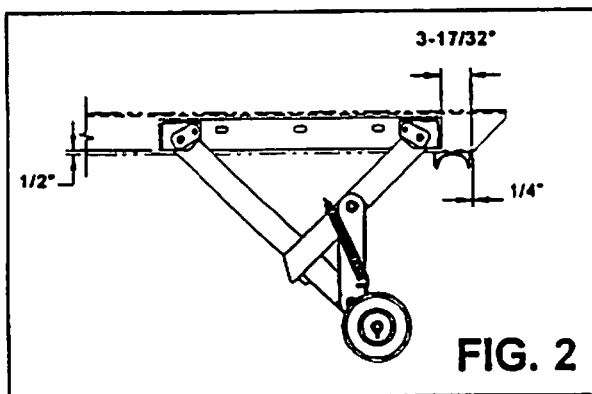

FIG. 2
3. Some modification to the roller mount bracket may be required for the roller mount to fit properly. If the existing container cross members are wider than 6", a fabricated support member of 1/2" plate or thicker will need to be added (See Fig. 2).
2. Center fender above tire using block to maintain the proper height. Fender should be approximately 6" above tire to allow for suspension movement (See Fig. 1). A maximum width of 48" from center of the truck to the outside edge of the fender should be maintained (See Fig. 2).
5. Attach cab guard weldment to truck frame using fasteners provided (See Fig. 2).
- Position drop down bumper on the longsills of the sub-frame (See Fig. 2 & 3). The mount brackets [Part No. 51H17] need to be positioned correctly to allow for sufficient room for bumper cradles [Part No. 51H19] (See Fig.2). Weld mount brackets onto the longsills of the sub-frame.
- Position bumper cradles [Part No. 51H19] on the longsills of the sub-frame. Check bumper cradles for squareness with respect to each other. The bumper tube [Part No.51H16] should come to rest within the bumper cradles when the container rests on the ground (See Fig. 2 & 3). Weld bumper cradles into place on longsills.
3. Weld the front [62H87] and rear [62H88] brackets to the support bars. Be sure to maintain the dimensions as indicated so that the bumper folds properly (See Fig. 2 & 3).
3. Position center plate [Part No. 63H08] on the rear of the main frame. Weld center plate to truck frame (See Fig. 2 & Additional Notes).
7. Mount license lamp right of the license plate (See Fig. 2) using the fasteners provided (See Fig. 3).
8. Mount junction box on the back left side of center plate (See Fig. 2), using the fasteners provided (See Fig. 3).